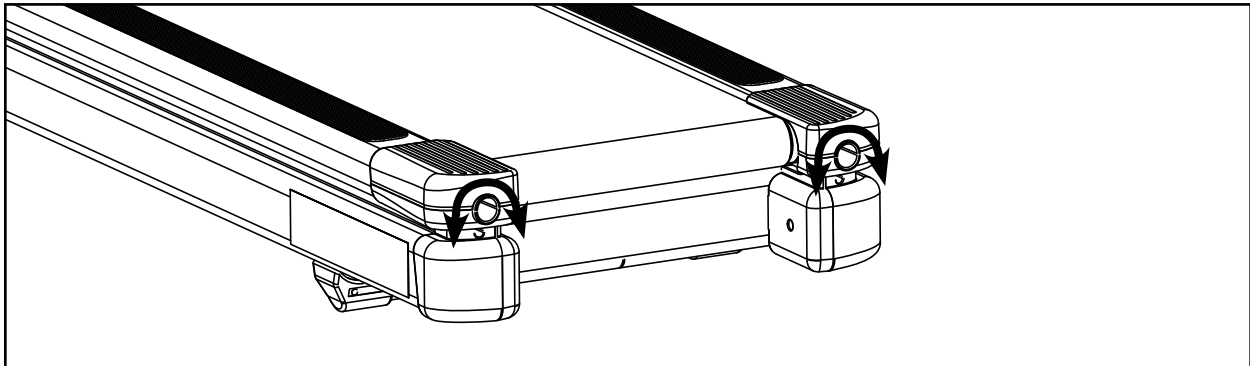

Figure 1
- A. Use a 3/4" socket wrench to turn each bolt 1/2 turn clockwise. See Figure 1. **NOTE:** Be sure to adjust each bolt equally on each side.